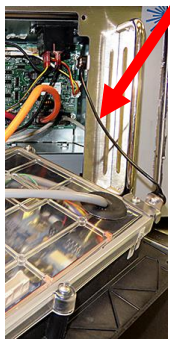

Figure 14
7. Lower the controller and rest it on the bottom of the control box (see Figure 14). The black tether on the right will support the controller